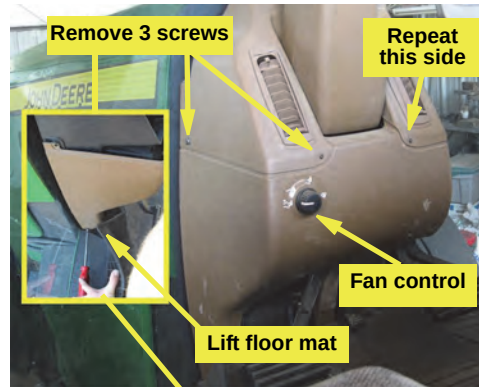

Figure 1a (with inset): Removing steering column cover screws
- a. Pull the fan control knob off its spindle then locate and remove the six screws securing the top and bottom steering column covers. Remove the covers (Figure 1a and inset).